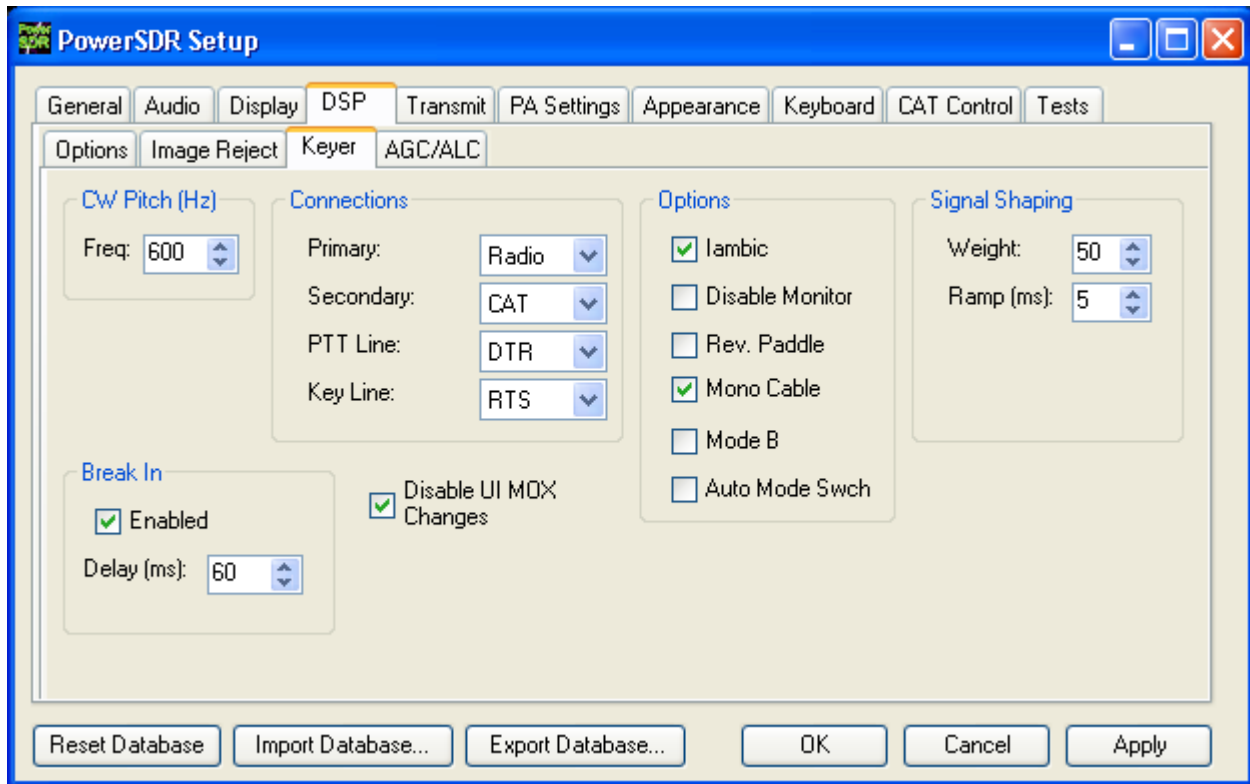

Figure 39: Setup Form – DSP Tab, Keyer Sub-Tab
If using PowerSDR's internal keyer, open the Setup Form – DSP Tab, Keyer Sub-Tab shown in Figure 39 below. Several of the controls in this form are also available in the **Mode Specific Controls – CW (8)** section on the Front Console.
1. Connect your paddles or keyer to the Key jack on the back panel (see page 9) and on the Keyer Sub-Tab in the **Connections** section, set **Primary** to **Radio** (see Figure 39 above).
1. Connect your paddles or keyer to the Key jack on the back panel (see page 9) and set the **Primary Connection** to **Radio** (see Figure 39 above)
2. In the **Options** section, leave **Iambic** unchecked. If your external keyer does not seem to be keying, try checking **Rev. Paddle**. If using an external keyer with a side tone, check the **Disable Monitor (8)** check box to avoid hearing the side tone from the internal keyer. The **Break In** option allows the radio to start transmitting simply with detection of keyer input. Set **Delay** to the amount of time between key up and when the radio will switch back to receive.
4. If not using **Break In**, click **MOX (16)** on the Front Console and begin transmitting using your external keyer. If using **Break In**, simply begin transmitting to key the radio. If **Disable Monitor** is unchecked, you should hear the side tone. Verify with the **TX Meter (4)** set to **Fwd Pwr** that there is forward power.
5. You are now ready to begin a QSO. If a 50 ohm dummy load was connected, connect an antenna in its place. Tune to the desired frequency using one of the methods outlined in the Tuning Methods section above. Select either **CWL** or **CWU (6)** and proceed with the QSO.